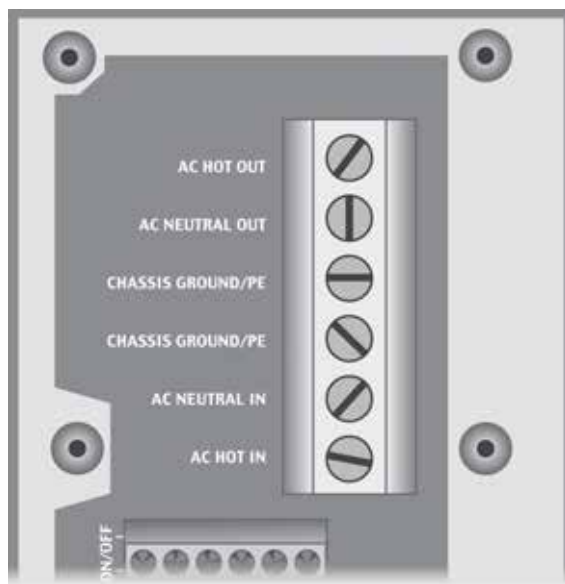

Figure 28 AC Terminals
4. Using a DVM or voltmeter, verify 230 Vac (or appropriate voltage) between the AC HOT OUT and AC NEUTRAL OUT terminals. (See Figure 28 for AC terminals.) The inverter is working correctly if the AC output reads within 10% of 230 Vac or the programmed output voltage.